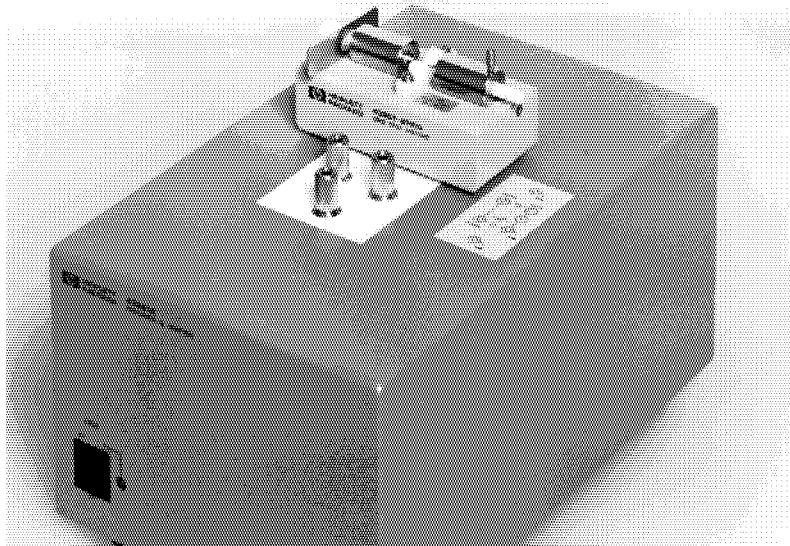

Figure 3-28. Connecting the SMD Test Fixture
6. Connect the SMD Test Fixture (42851A Option 001) to the *HIGH* and *LOW* binding post measurement terminal of the 42851A as shown in Figure 3-28.